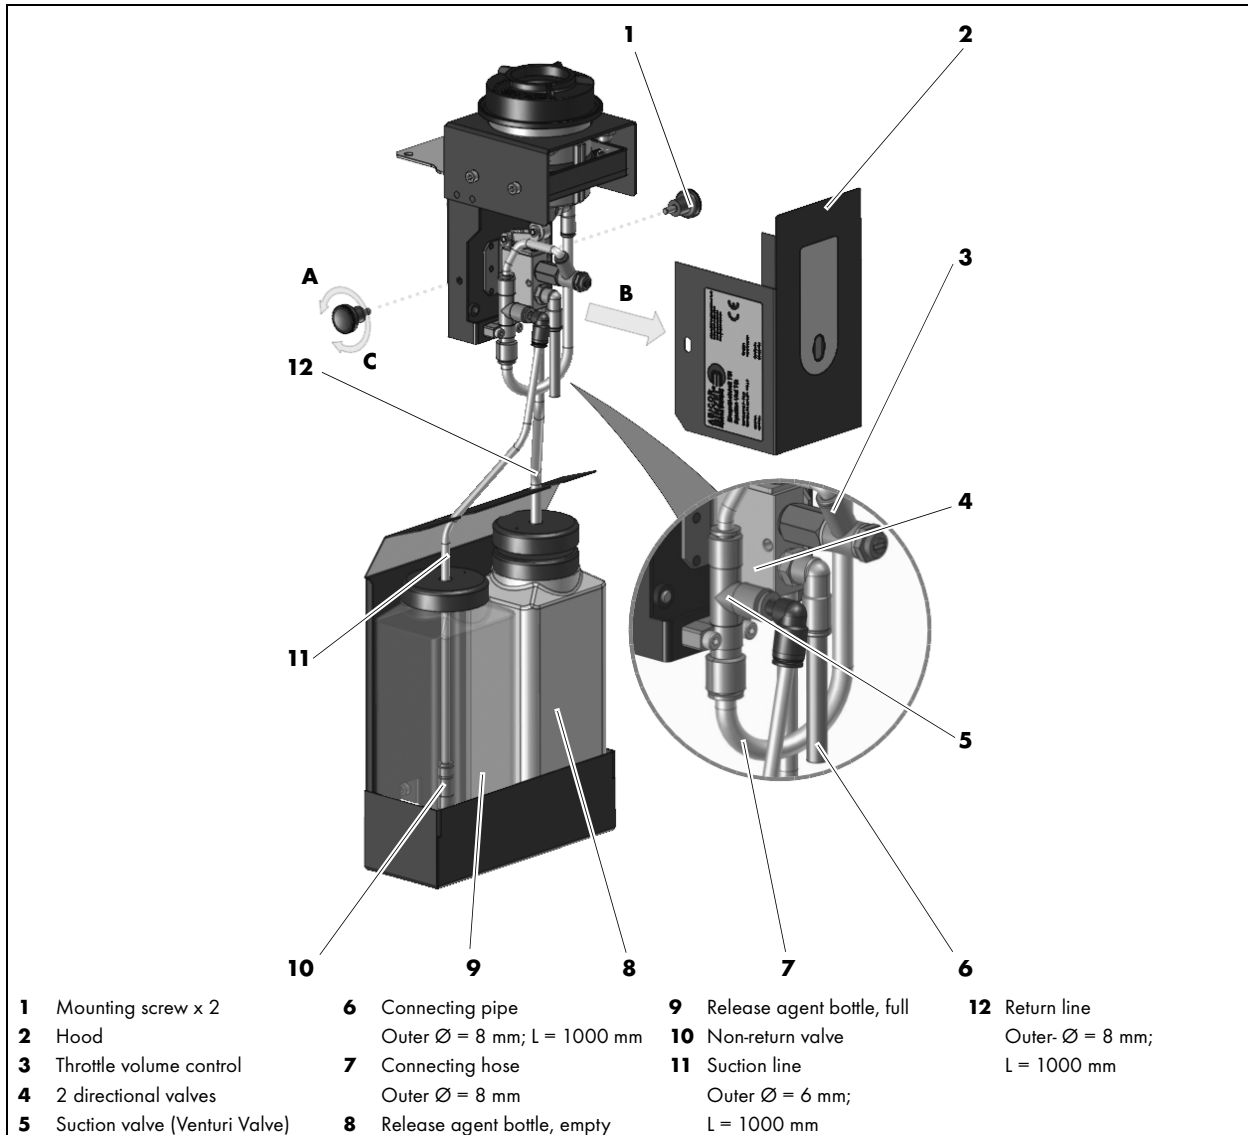

Fig. 6 Connect the compressed air line
<ul style="list-style-type: none"> • Check that the collection receptacle (4) is functioning correctly. Empty and clean if necessary. ⇒ 9.2 De-dust and clean collection receptacle on page EN-15 • Check that the return line (12) is functioning. Disassemble and air-blast with compressed air if necessary. ⇒ Fig. 6 Connect the compressed air line on page EN-10 	<ul style="list-style-type: none"> • Check the rubber seal (1) for wear and damage and replace if necessary. ⇒ 9.4 Replace rubber seal on page EN-17